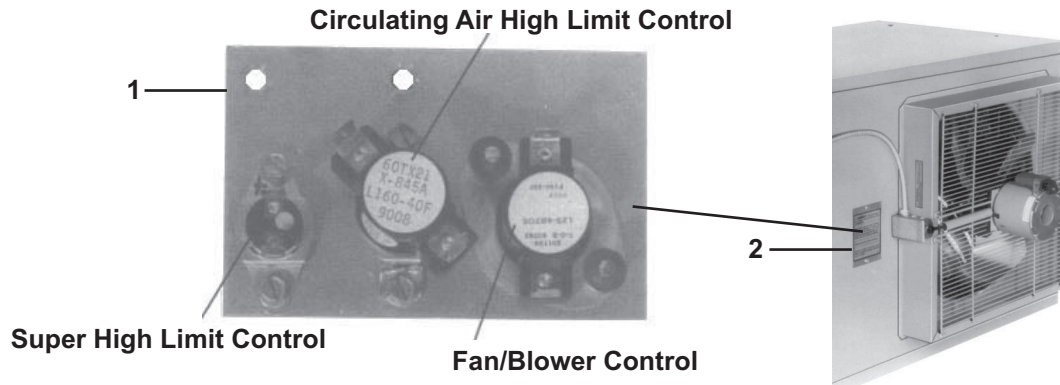

Figure 10. Limit and Fan/Blower Control Components and Access Location—Model RA/RAD, Unit Sizes 110, 140, and 235 (Refer to Table 10 and Table 11)
- Model RA/RAD (Unit Sizes 110, 140, and 235): Figure 10